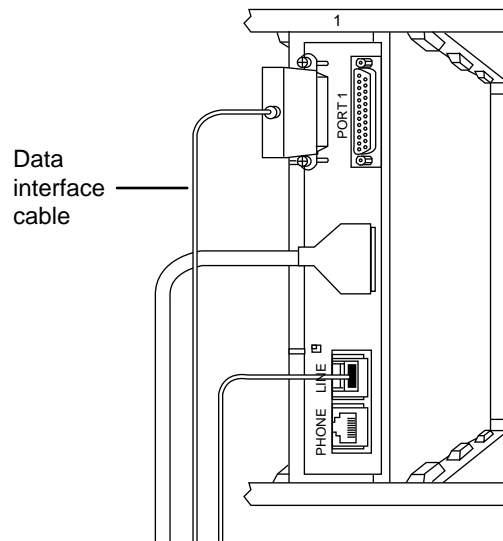

FIGURE 8-24. Connecting the Data Interface Cable to Its Port
13. From the back of the rack, connect the appropriate data interface cable to its port on the back of each data module. See Figure 8-24. Tighten the connector screws to hold the cables securely in place.